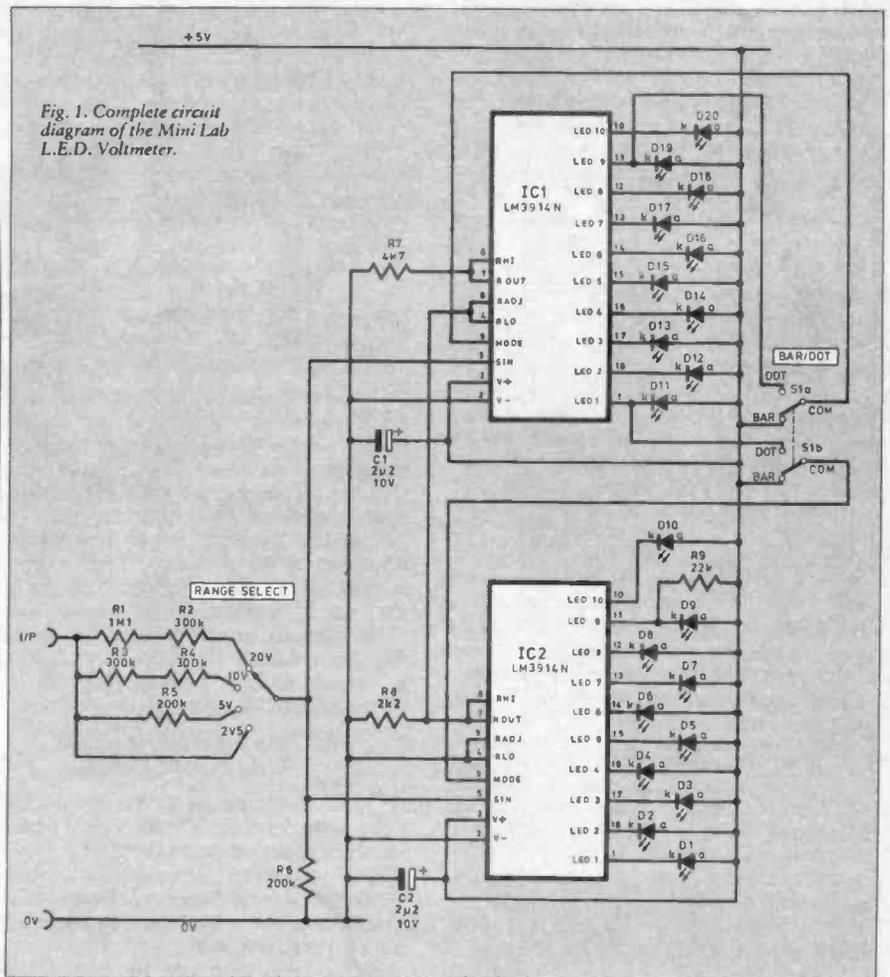

Fig. 1. Complete circuit diagram of the Mini Lab L.E.D. Voltmeter.
**T**HE first module to be constructed on your *Mini Lab* printed circuit board (described in detail last month) is a complete voltmeter which uses a row of 20 light-emitting diodes (l.e.d.s) for a scale. It reads up to 2.5V, 5V, 10V or 20V full-scale deflection (f.s.d.). The circuit diagram is shown in Fig. 1: if you are a novice in electronics, don't worry if the circuit diagram doesn't make too much sense – the important thing for now is to build the module successfully.